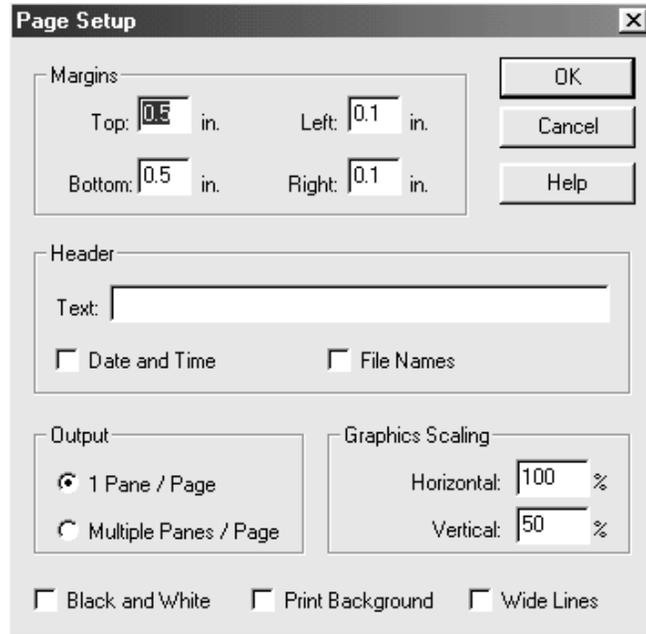

Figure 6-9. Page Setup Dialog Box
1. Choose FILE... PAGE SETUP... from the Menu bar to display the Page Setup dialog box (see Figure 6-9).